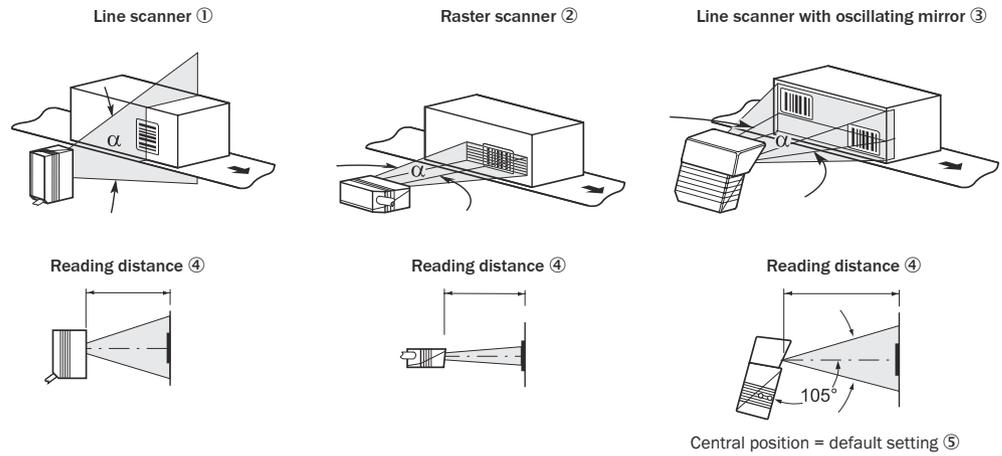

Figure 24: Allocation of scan line(s) to bar code and conveyor direction
- Reading distance to bar code and aperture angle α (see figure 24, page 46)